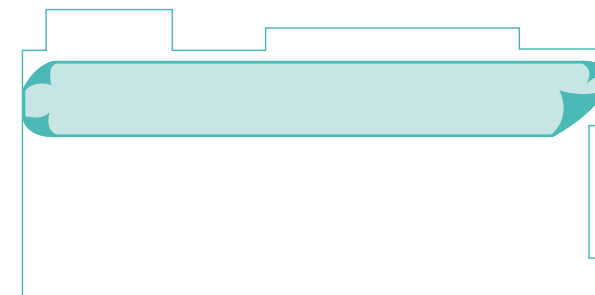

Figure 1 Lining up the first sheet
- > Adjust the lie of the sheet so that the inner edge is parallel with the axis of the room (Fig 1).